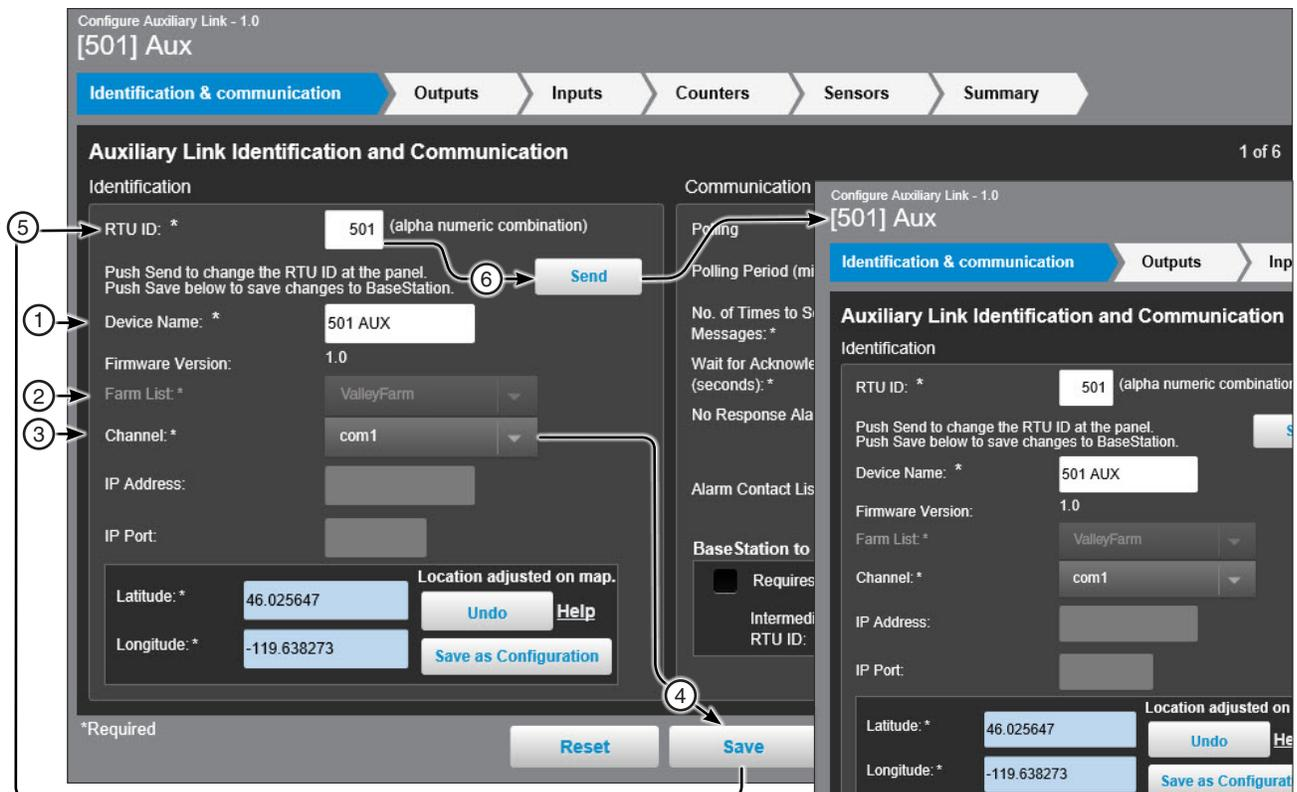

Figure 191-1 1. Device Name 3. Channel 5. RTU ID
**Setting the RTU ID (Auxiliary Link):** RTU ID of the Auxiliary Link is programmed to \*\*\* when shipped from the factory. When a new Auxiliary Link panel is added to the map, the default ID is also \*\*\*. A new RTU ID needs to be saved in BaseStation3 and sent to the Auxiliary Link panel. See Figure 191-1.